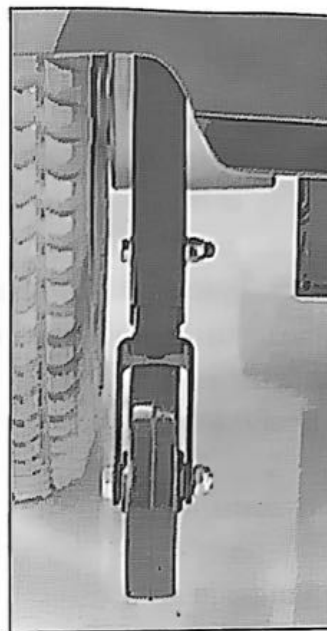

FIG. 15
2. Adjust the height to one of third position where you desire. (Fig. 15)